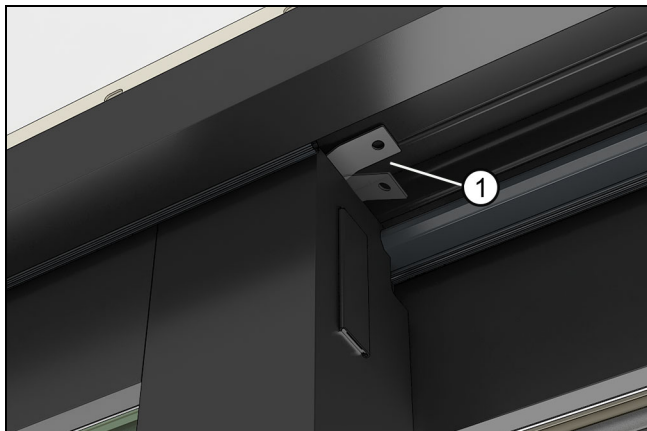
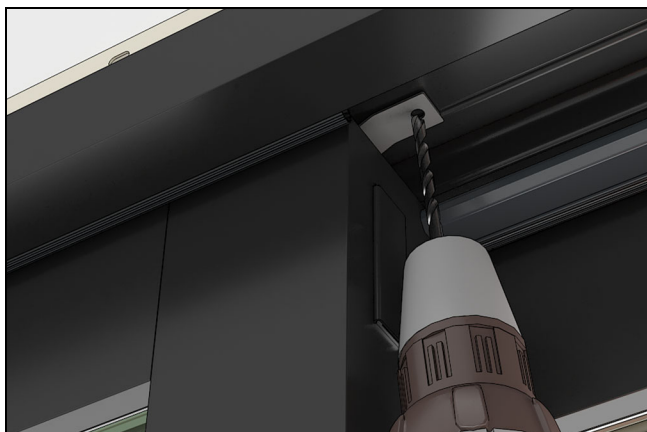

Figure 83
Figure 84
8. Bend the top stationary bracket up against the head jamb and pre-drill a 3/16" (5) hole through the head jamb using the bracket as a template. See Figure 83 and Figure 84.